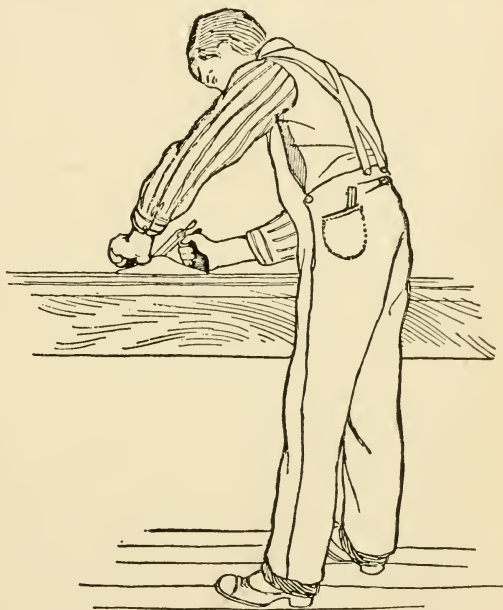

FIG. 25. — Take this Position for Planing.
**For Planing**, take the position shown in Fig. 25, with the left foot a little in advance of the right, the right hand grasping the handle of the plane and the left holding the knob on the fore part of the stock. Use a long, steady sweep, and bear with equal pressure from the beginning of a stroke to the end, to avoid the hollows that are so easily made by taking shavings of different thick-